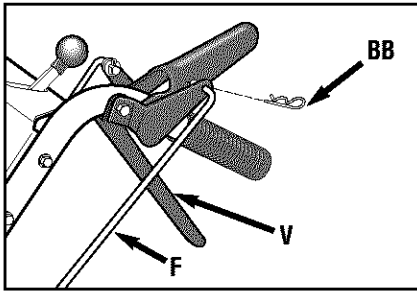

Figure 2-6A: Attach wheel drive control rod to lever.
1. Locate the wheel drive control rod (F, Figures 2-6A & 2-7) and remove the angled end from the left handlebar by removing the hairpin clip which secures it to the Wheel Drive Control lever (V, Figure 2-6A)
4. At upper end of control rod, re-insert the angled end into the Wheel Drive Control lever (V, Figure 2-6A) and re-attach with hairpin clip (BB) removed earlier.